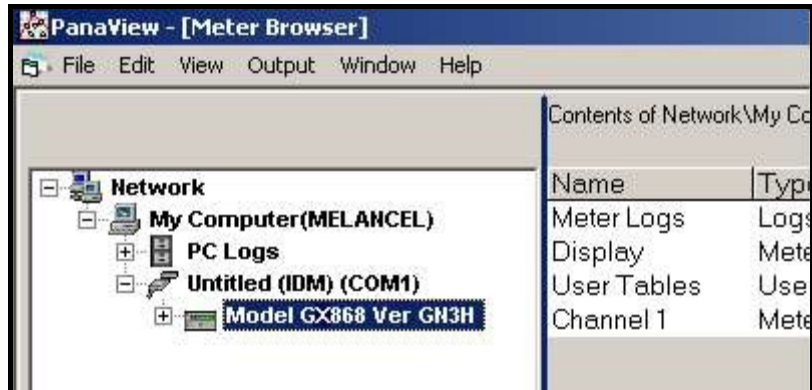

Figure C-6: Updated Network Tree
If the initialization is successful, the Meter Browser shows a listing similar to Figure C-6 below.
1. Highlight the meter (as shown in Figure C-6 on page C-5).